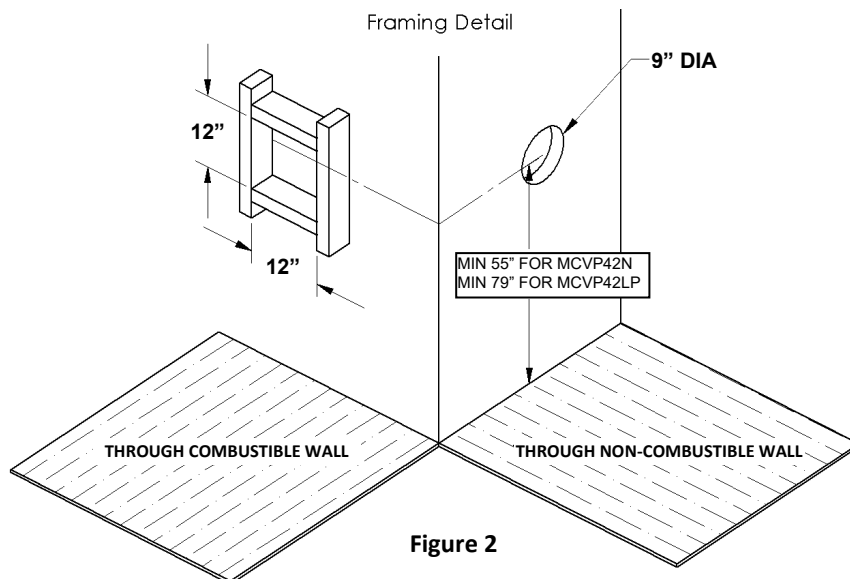

Figure 2
1. To determine the minimum distance from the bottom of fireplace to center of vent see the Framing Your Gas Fireplace section. Cut a hole through the wall allowing for a 12" x 12" (inside diameter) in combustible walls for wall thimble or a 9" diameter hole in a non-combustible wall (See Figure 2).